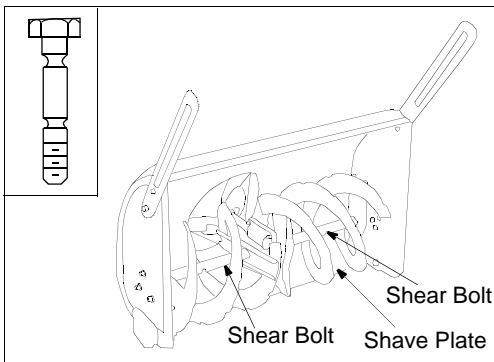

Figure 22
The augers are secured to the spiral shaft with two shear bolts and hex lock nuts. If you hit a foreign object or ice jam, the snow thrower is designed so that the bolts will shear. See Figure 22. Lock nuts cannot be threaded onto a bolt by hand. This type of nut is used where vibration occurs.
If the augers do not turn, check to see if the bolts have sheared. Two replacement shear bolts (shown in Figure 22 inset) and hex lock nuts have been provided with the snow thrower. When replacing bolts, spray an oil lubricant into shaft before inserting new bolts.
- Remove the four carriage bolts, belleville washers and hex nuts which attach skid shoes to the snow thrower on two sides. See Figure 22.
- To remove shave plate, remove the skid shoe and the rest of hardware including carriage bolts, belleville washers and hex nuts which attach shave plate to the snow thrower housing. For location of shave plate, see Figure 22.